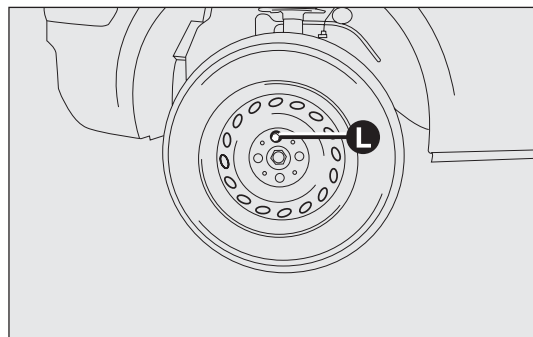

fig. 125
- ❑ remove the wheel cap (where provided) after loosening the three fastening bolts, then loosen the fourth bolt L - fig. 125 and remove the wheel (for Multijet engine versions);